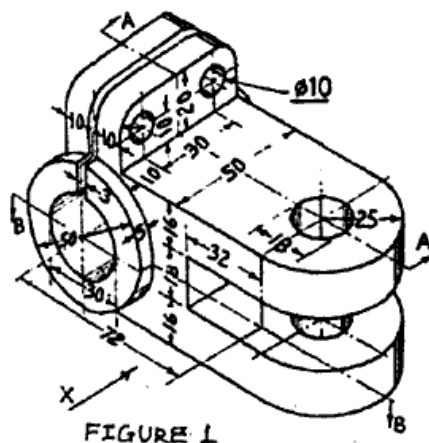

FIGURE. 1
1. a) Figure 1. Shows the pictorial view of a component. Draw the following views using first angle projection method. **10**